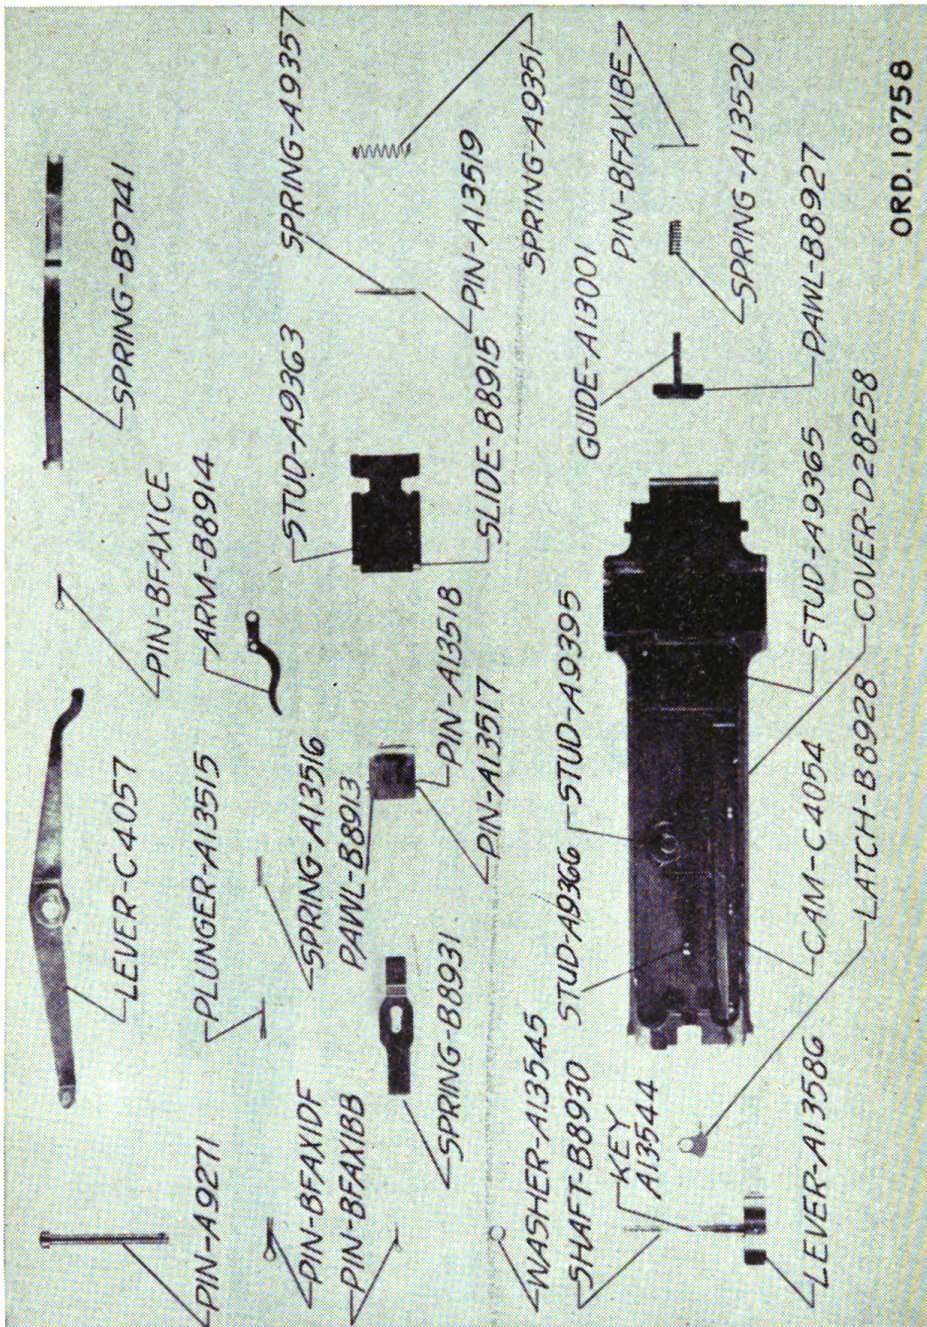

Figure 5.—Cover group.
c. Barrel group.—(1) Remove barrel by unscrewing from barrel extension.
(2) Remove barrel locking spring by sliding it forward out of its seat in barrel extension.
(3) Push out breech lock pin and remove breech lock.
(4) The barrel sleeve is permanently assembled to the barrel and should not be removed.
d. Cover group (fig. 5).—(1) Remove cover pin cotter pin. Drive out cover pin and lift cover free from trunnion block.
(2) Remove belt feed lever pivot stud cotter pin and pry belt feed lever off its stud, taking care while doing so that belt feed lever plunger and spring do not fly out. In removing belt feed lever, see